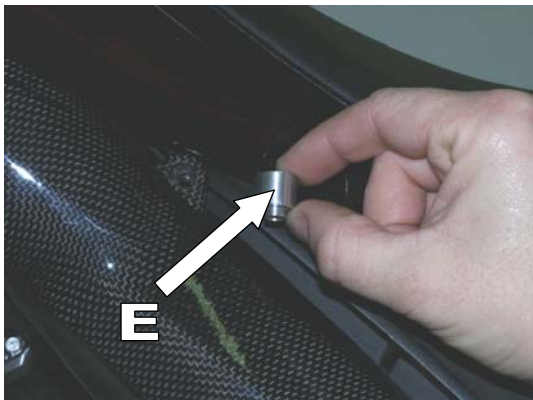

Figure 11
9. Attach the upper heatshields bracket. Use Akrapovic **Alu spacer E** and **bolt F**. Tightening torque for **bolt F**: 3.6 ftlb (4.9 Nm). (**Figure 11, 12, 13**).